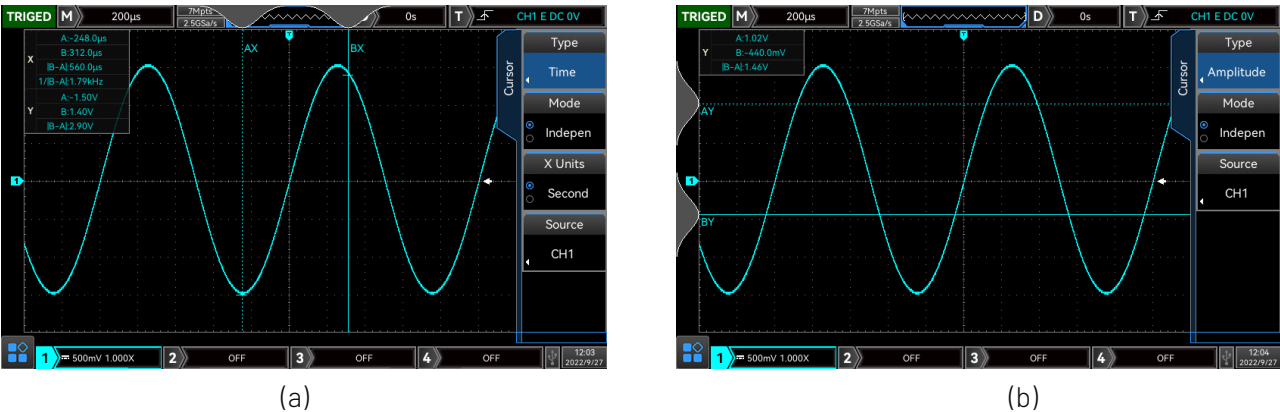

Figure 11
- Slide down in vertical to directly turn on time measurement cursor as shown in Figure 11(a);
- Slide right in horizontal to directly turn on voltage measurement cursor as shown in Figure 11(b);